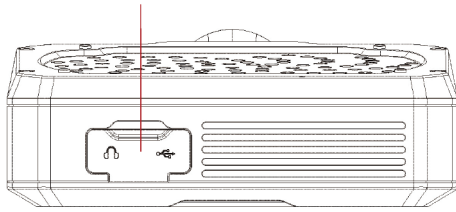

Figure 4.
- ①  Return: return to the main interface.
- ②  Filter: images in the gallery can be filtered by the 'favorite' tag or the defect severity level.
- ③  Data export: the icon lights up after the device is connected to an external USB hard drive by the type C interface, as illustrated in Figure 4. It enables to export images and videos exportation.
- ④  Image information: pulls down a floating window that summarizes information contains in the image: Max sound pressure level, distance parameter, selected frequency range (for more information, please refer to section 4.1), and defect severity level.
- ⑤  Favorite: apply or undo the 'favorite' tag.
- ⑥  Text annotation: add, edit or delete text annotation;
- ⑦  Frequency spectrum: display or withdraw the frequency spectrum.
- ⑧  Delete: delete the selected file;
- ⑨ Image list: display the list of files. Press and hold for 2 seconds to enable multiple selection.
- ⑩ Image display area: display the current selected file screen, graphs and other information.
8. Insert the accessory USB disk drive into the type-C interface, as illustrated in figure 4.